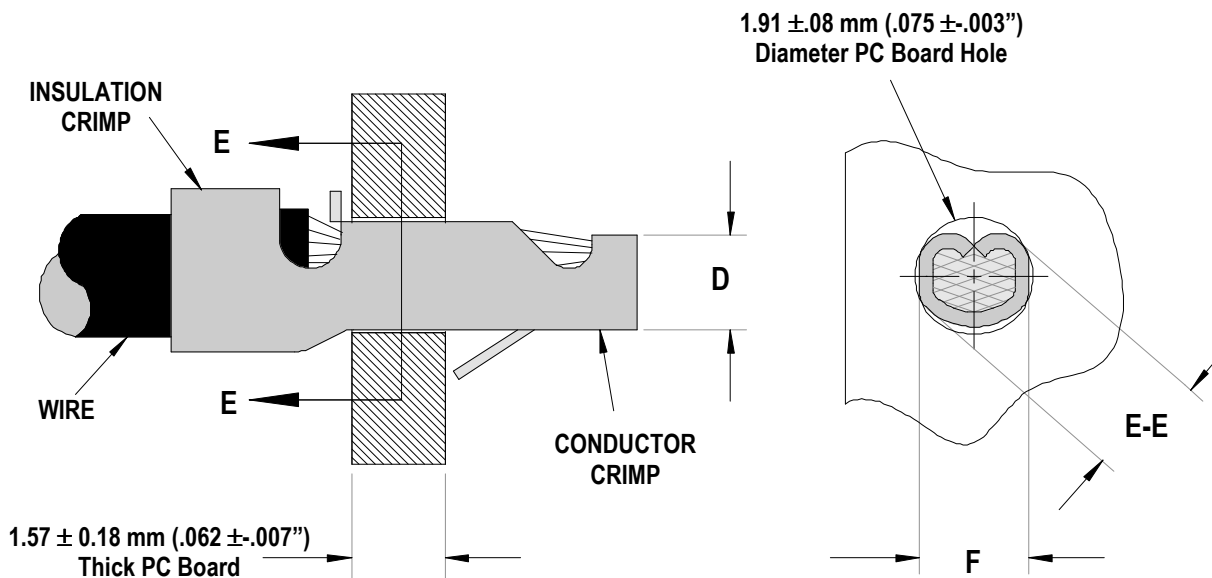
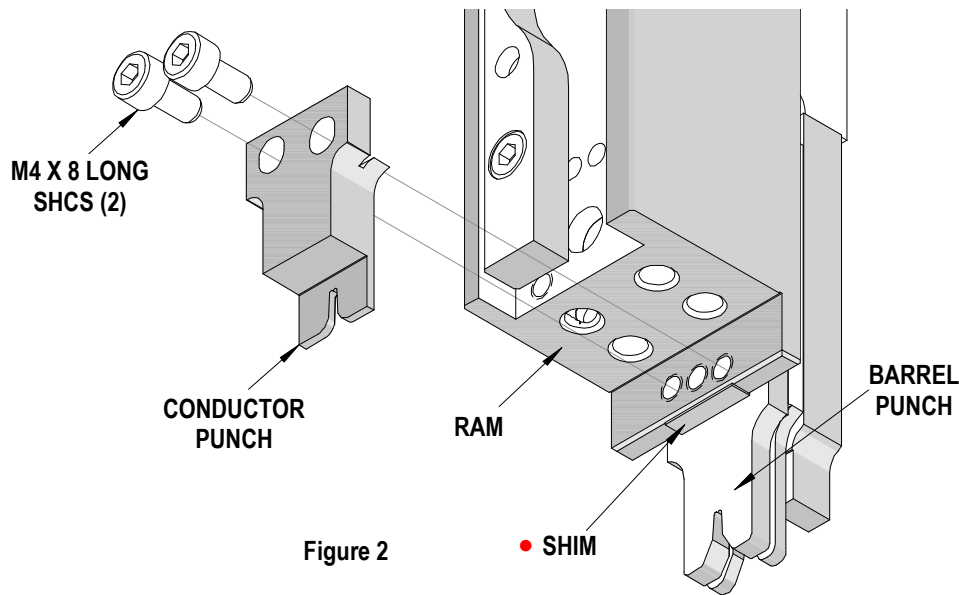

Figure 1
Figure 2
After crimping, the conductor profiles should measure the following (See Figure 1).
5. To achieve the conductor crimp height (D dimension in Figure 1) for 22 and 24ga wire, a 0.25mm (.010") thick shim is required if your crimp press is not equipped with adjustable shut height. This shim is not supplied with the applicator. The shim should be located between the Ram and the Conductor Punch. See Figure 2.